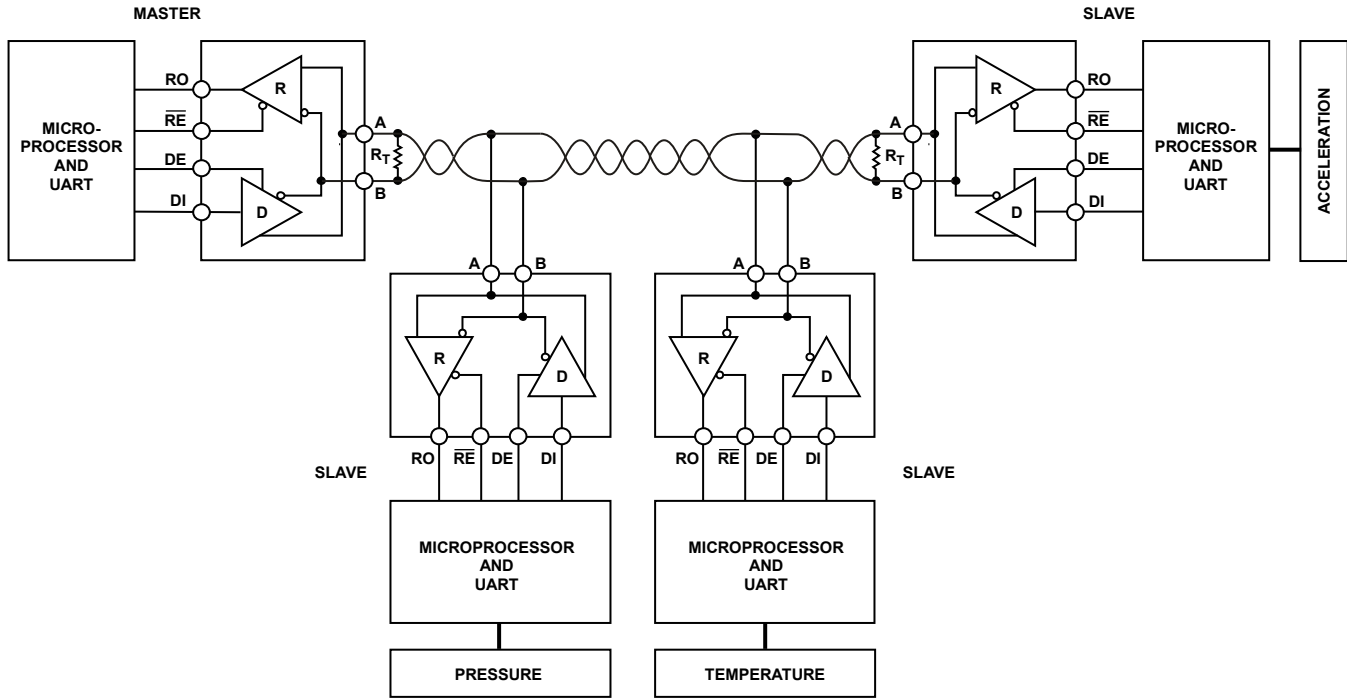

Figure 8. Master/Slave RS-485 Network with No Fail-Safe Biasing of the Network
Figure 8 shows a configuration of a master/slave RS-485 network with no fail-safe biasing. Asynchronous data transmission is typically used in these applications. A start bit indicates the start of a bit sequence and is detected when a transition occurs from high to low. Eight data bits and a parity bit follow the start bit. A stop bit that can be one or two bits long follows this bit sequence. Another start bit starts the next bit sequence. When the last character is sent the line should stay high until the next start bit. This causes problems in multipoint applications when the transceivers connected on the bus are in receive mode simultaneously. This is known as a bus idle condition and in this case, the differential voltage on the bus ( $V_{OA} - V_{OB}$ ) is 0 V. Under this condition, the receiver output (RO) is undefined by the RS-485 standard and, thus, the receiver output can produce random data. This data is connected to the UART and can cause erroneous system operation.